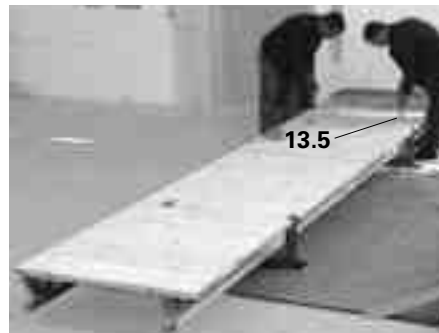

Fig. A2.09
4. Fix remaining planking. (Fig. A2.09)